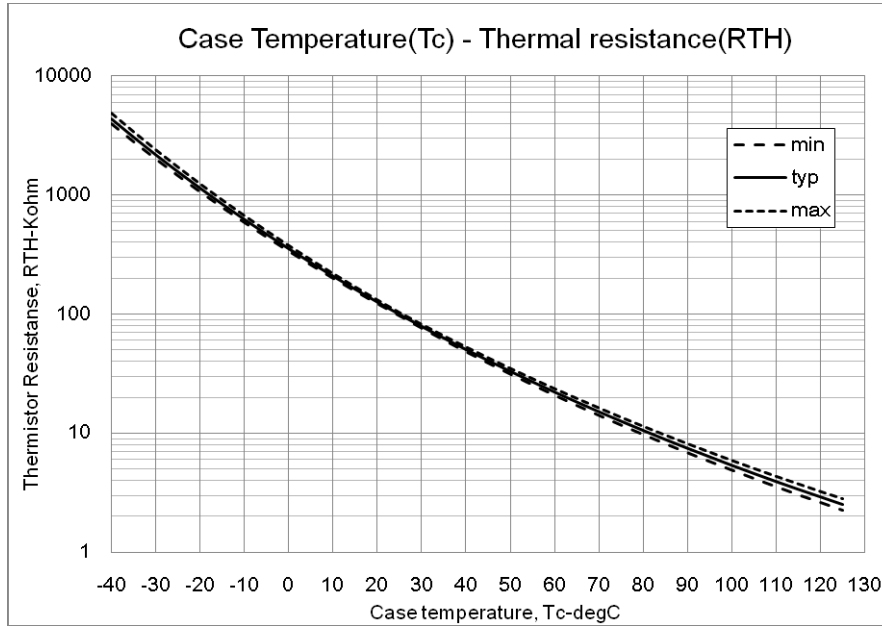
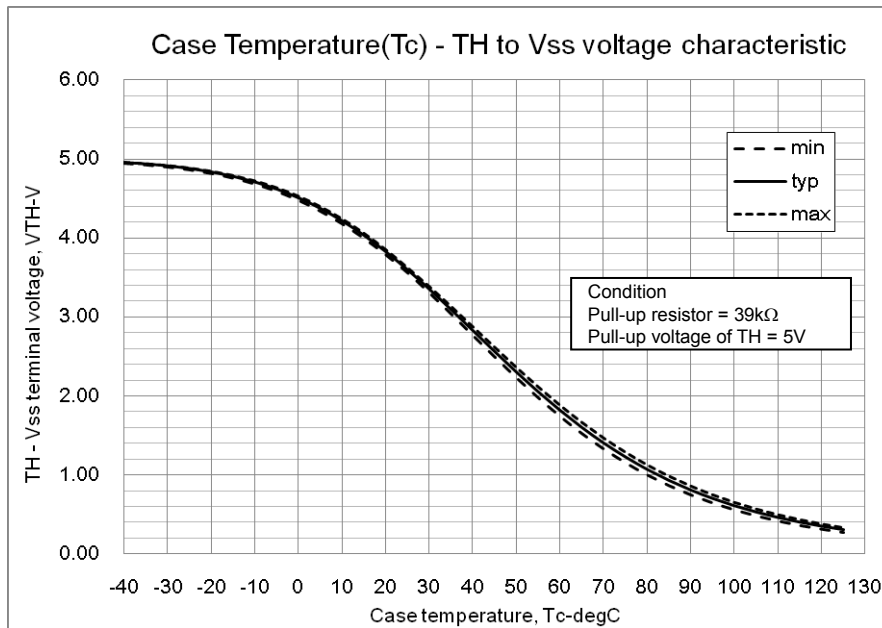

Fig. 10
Fig. 11
5. Inside the H-IC, a thermistor used as the temperature monitor for internal substrate is connected between VSS terminal and TH terminal, therefore, an external pull up resistor connected between the TH terminal and an external power supply should be used. The temperature monitor example application is as follows, please refer the Fig.10, and Fig.11 below.